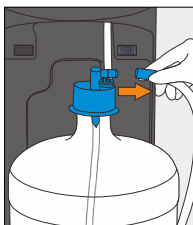
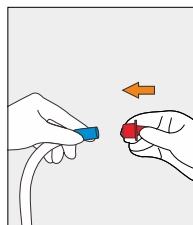

Figure 28
Figure 29
3. Open the replacement SmartFlo™ Water Cartridge kit and take red plug from kit. Disconnect the water line from the bottle adaptor (Figure 28) and add red plug to waterline (Figure 29)